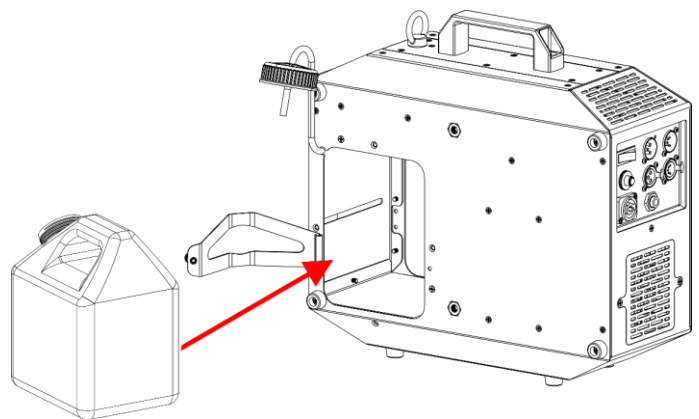

Fig. 21
- 16) Put the **fluid tank (02)** back in the device, as shown in Fig. 21.